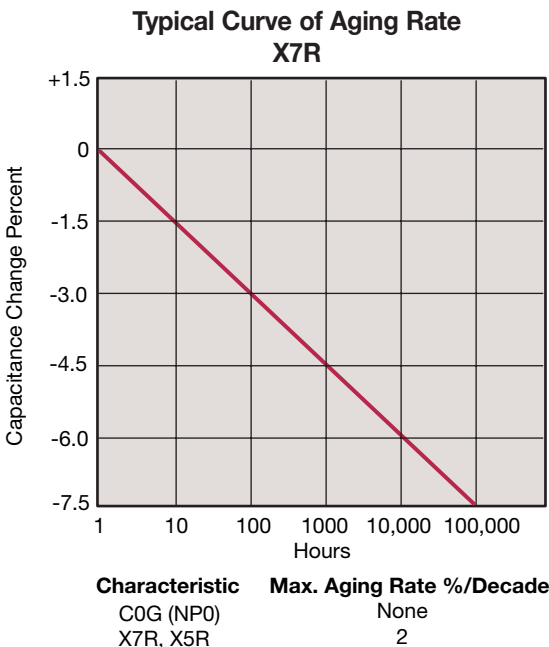

Figure 4
**Effects of Time** – Class 2 ceramic capacitors change capacitance and dissipation factor with time as well as temperature, voltage and frequency. This change with time is known as aging. Aging is caused by a gradual re-alignment of the crystalline structure of the ceramic and produces an exponential loss in capacitance and decrease in dissipation factor versus time. A typical curve of aging rate for semi-stable ceramics is shown in Figure 4.